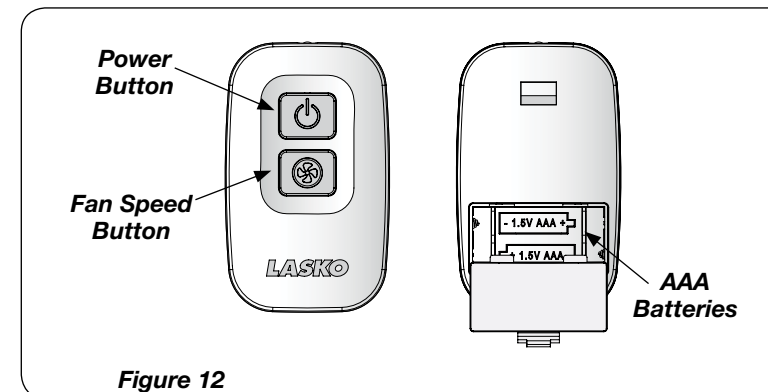

Figure 12
This Fan may be operated by the Manual Controls located on front of the unit (as shown in *Figure 9*) or by the Remote Control (shown in *Figure 12*).
1. Install batteries (not supplied) as shown in *Figure 12*. The battery is type “AAA”.